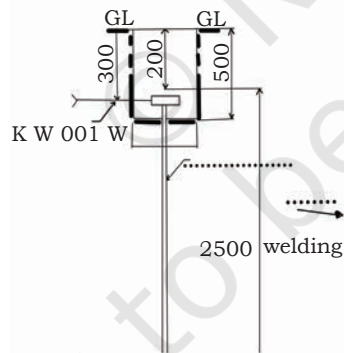

Fig. 4.46 Pipe Earthing
2. REC Construction standard J-2 Pipe Earthing or Spike Earthing (Fig. 4.46)